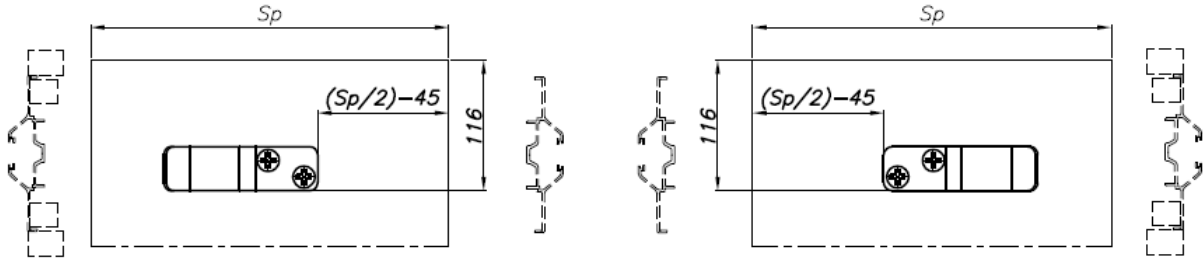
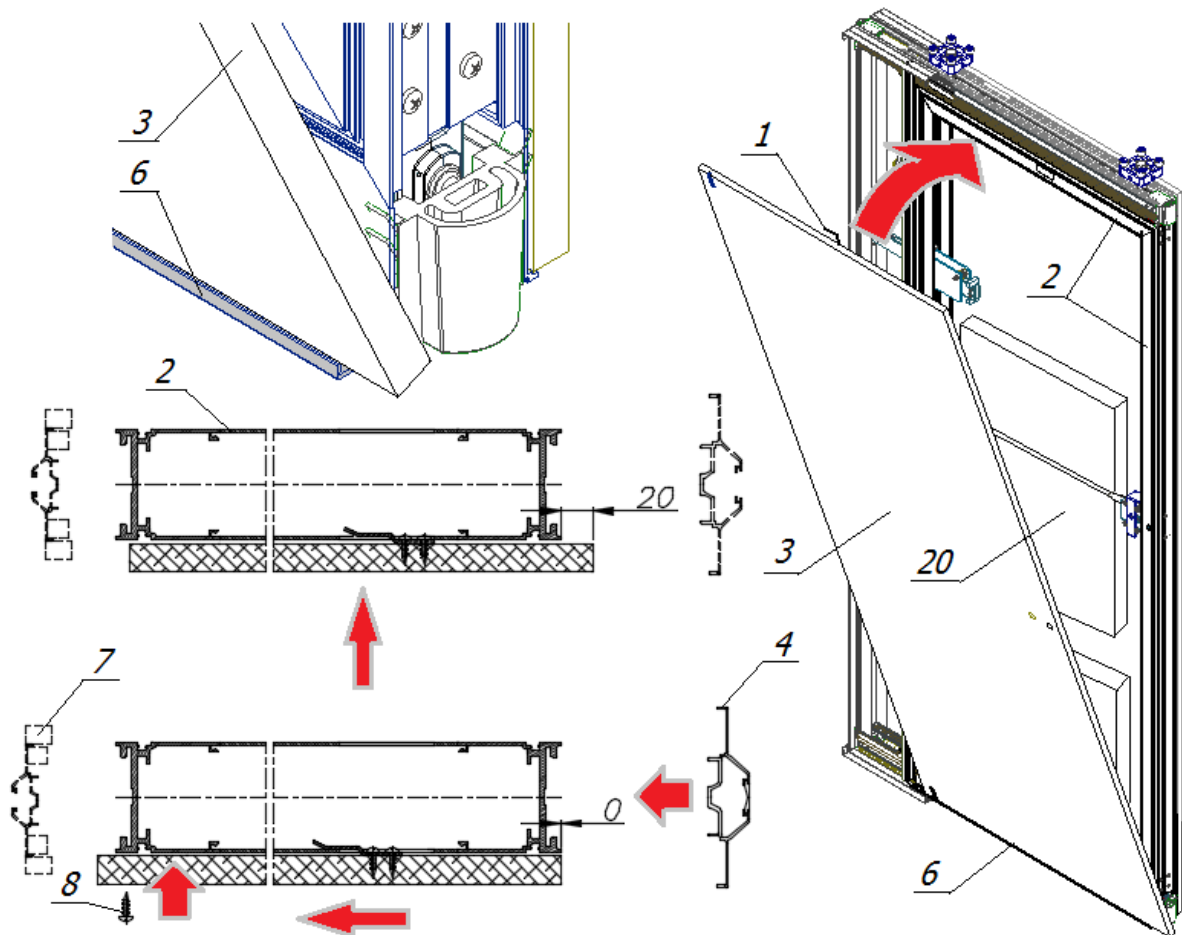
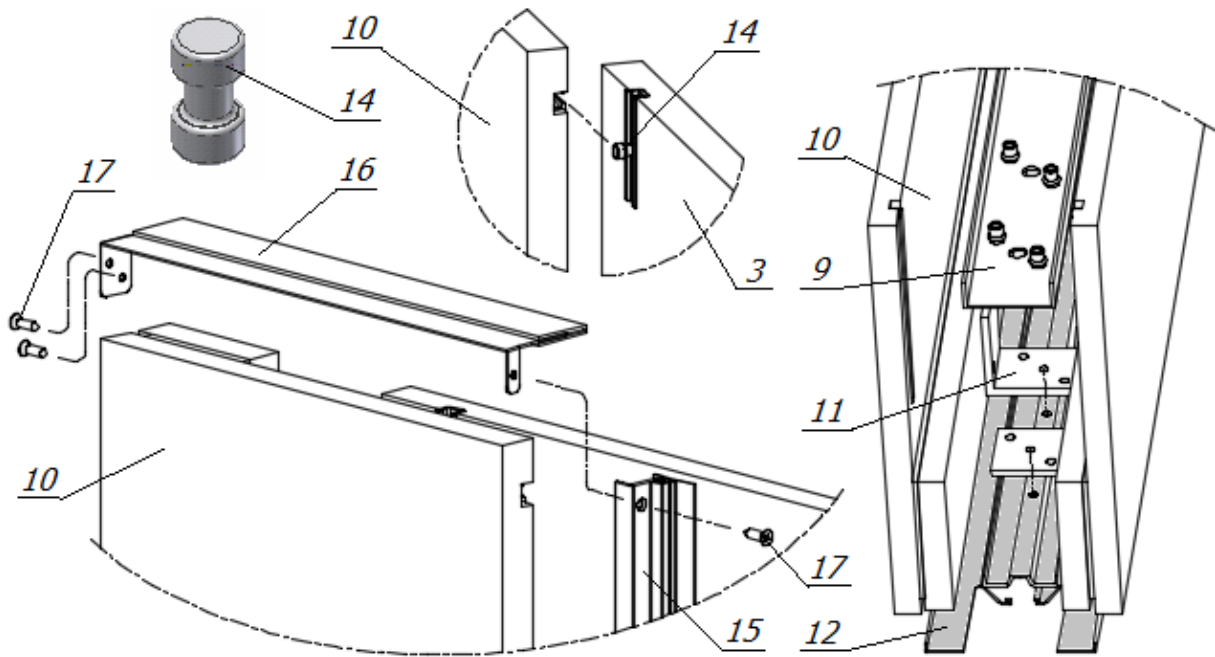

Fig.43. Screwing the handles in both plates of the telescopic panel according to the dimensions
Fig.44. Scheme of setting and suspending the plate in relation to the frame of the telescopic panel
Fig.46. Assembly of the plates of the withdrawable part with cooperating elements
Screwing the handles on the telescopic panel plate (Fig.43) and then hanging the plates (Fig.44) are described below.
Check that the **CORRECT** panel has been selected for insertion and set it initially 20 mm (Fig. 44!) from the edge of the panel frame **FROM**
the "male" masking side, then insert "zero" and SCREW its other vertical edge with a sheet metal screw $\phi 3 \times 25$ (8 in Fig.44)
After hanging the first board (3), the inside of the panel should be lined with previously prepared cut-to-size acoustic wool (20 in Fig.44)
3-previously suspended plate (Fig.44) 10-sliding part plates
To prevent the boards from "separating", a special board guide holder (14 in Fig. 46) was used, which is placed in all channels on fixed boards (3) already suspended (according to Fig. 44)
3-previously suspended plate (Fig.44) 14-pull-out plate guide handle
- soundproofing strip (16) at the top and bottom on both sides
- masking strip (15) on both side using screws $\phi 3 \times 16$ (17 in Fig.46)